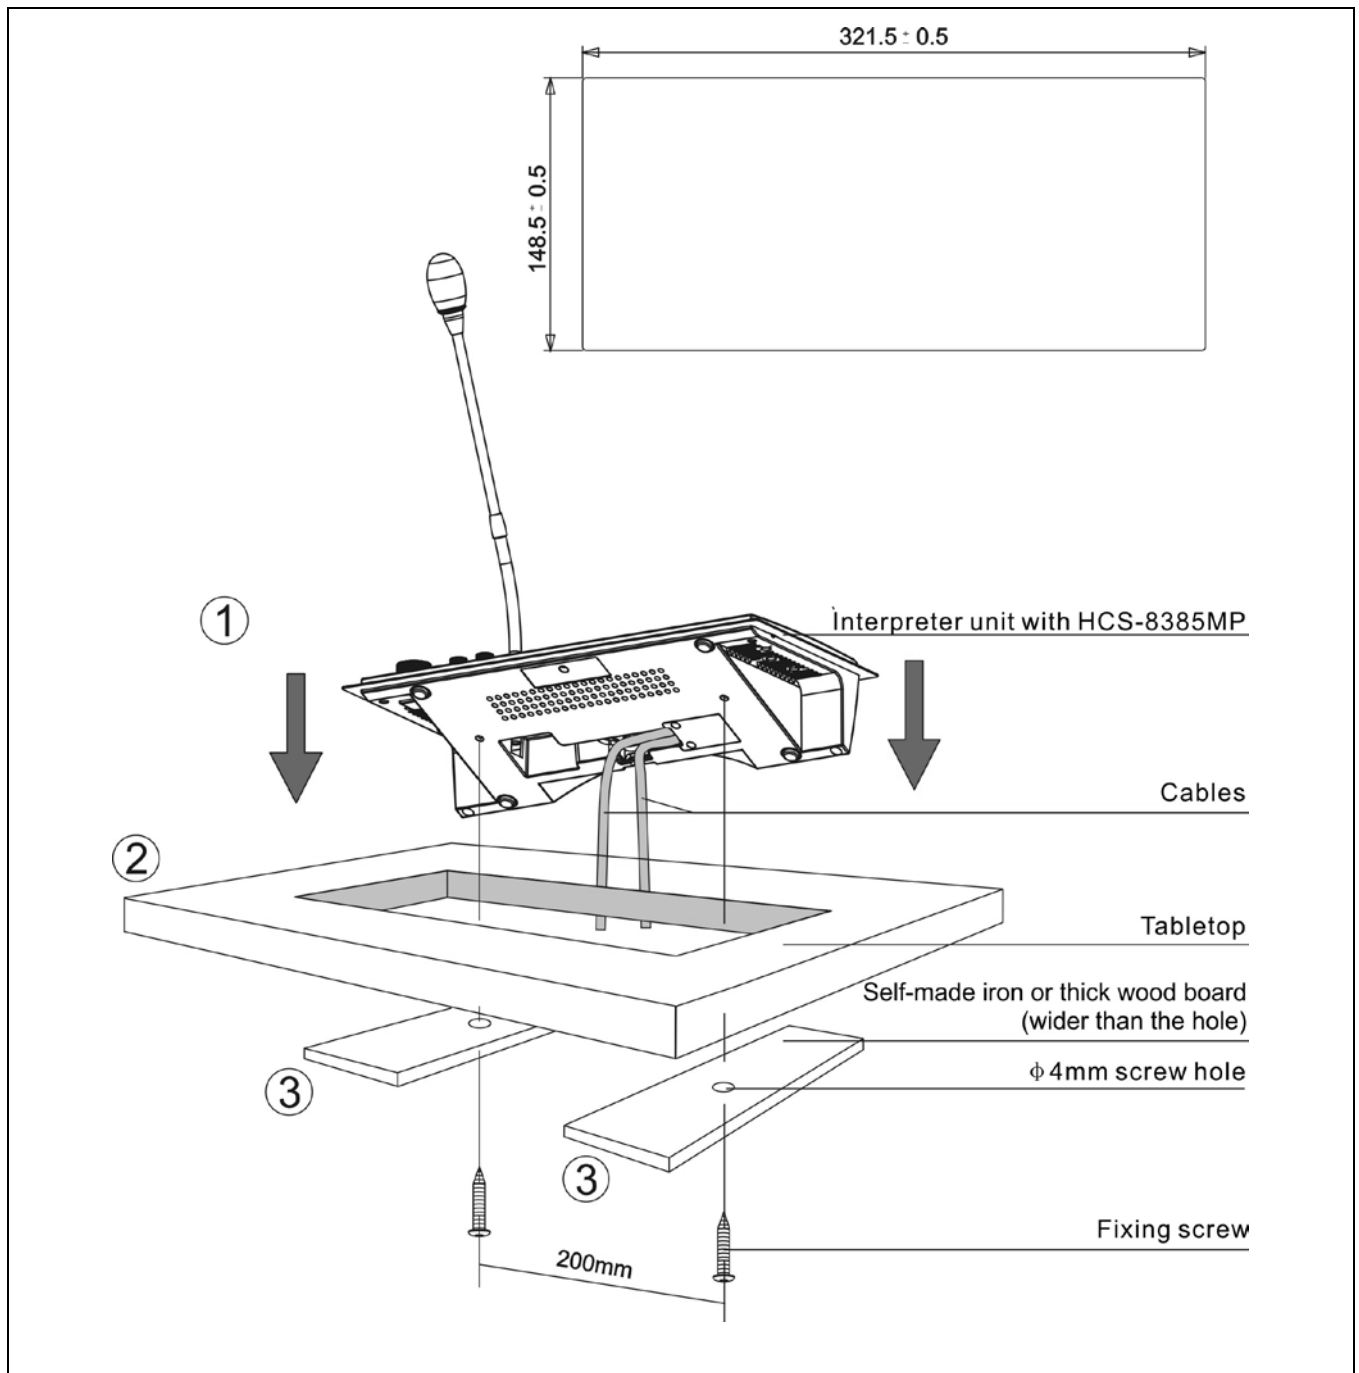

Figure 4.2.2 Installation diagram (unit: mm)
- a. Make a recess in the table according to the dimensions in figure 4.2.2;
- b. Drill two $\varnothing 4$ mm screw holes in the counterpiece according to figure 4.2.2. The distance between the centers of the screw holes is 190 mm;